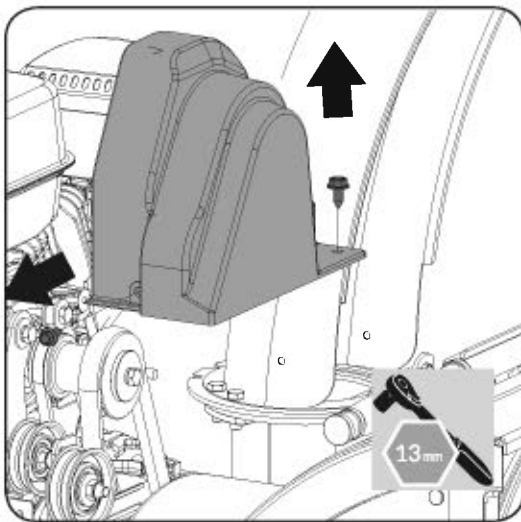

Figure 16a
2. Remove the two screws that hold the belt cover in place and set the cover aside. (See **Figure 16a**)
2. Remove belt cover. (See **Figure 16a**)